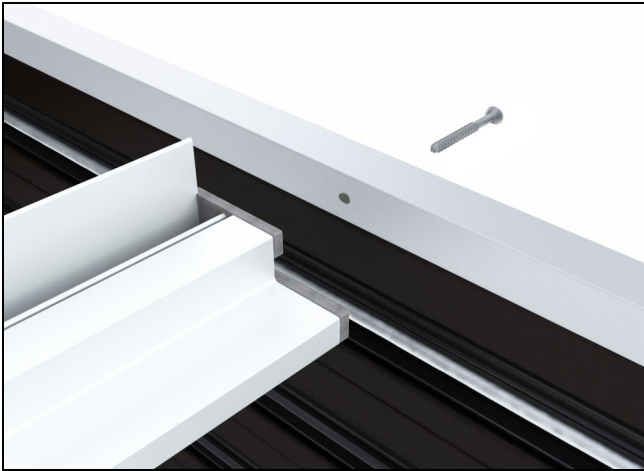

Figure 89
8. Fasten sill liner to pocketing interlocks using #8 x 1 1/2" flat head screw. See figure 89.